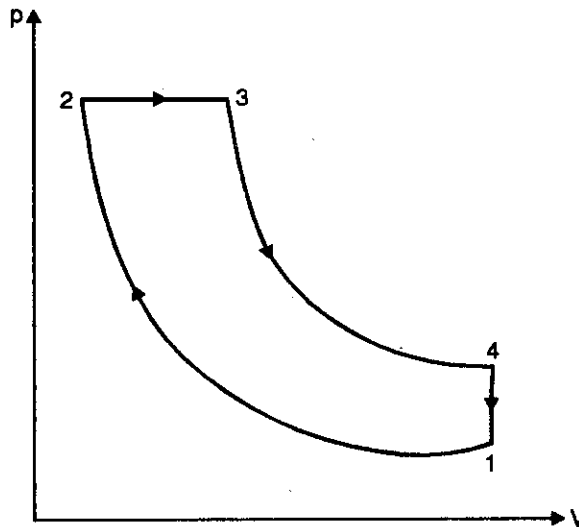

Fig. 13.18. Diesel cycle.
**Solution.** Refer Fig. 13.18. Given :  $\frac{V_1}{V_2} = 15.3$  ;  $\frac{V_4}{V_3} = 7.5$
The cycle is shown in Fig. 13.18, the subscripts denote the respective points in the cycle.